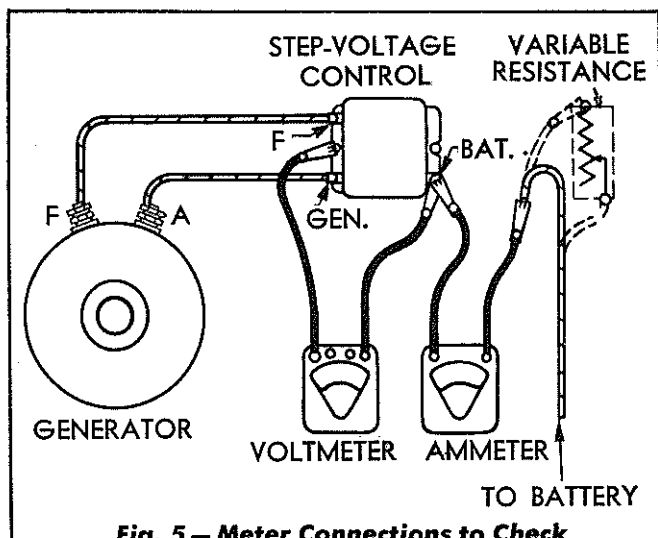

Fig. 5 - Meter Connections to Check Voltage Control
A low charging rate indicated on the ammeter when the batteries are fully charged indicates proper operation of the voltage control. Excessive gassing of the batteries indicates overcharge. The voltage control is designed to reduce the generator charging rate to approximately 2 amperes at 2400 generator R.P.M. (approximately 1550 engine R.P.M.) when the batteries have approached a fully charged condition. Check the voltage control action by stopping the engine and connecting the ammeter into the charging circuit, as shown in Fig. 5. Disconnect the lead from the "BATTERY" terminal
Refer to Fig. 5 and disconnect the lead from "BATTERY" terminal of the voltage control and connect it to one terminal of the variable resistance. Connect the positive ammeter lead to "BATTERY" voltage control terminal. Connect the negative ammeter lead to the other terminal of the variable resistance. Connect the negative voltmeter lead to the "BATTERY" voltage control terminal and the positive lead to the ground (base of voltage control or generator frame). Connect a jumper lead (not shown in dia-
- e. VOLTAGE SETTING. The opening voltage (13.5 to 14.2 with the unit hot — 180° F.) of the contact points is checked by connecting the meters and a ¼ ohm variable resistance, as illustrated in Fig. 5, to the voltage control, generator, and batteries. Increase the generator speed slowly and note the voltage at which the contact points of the voltage control unit open. The moment at which the contact points open will be indicated by a sudden drop in the charging rate as shown by the ammeter. *STEP-VOLTAGE CONTROL MUST BE AT OPERATING TEMPERATURE AND COVER MUST BE IN PLACE WHEN MAKING THIS CHECK.*